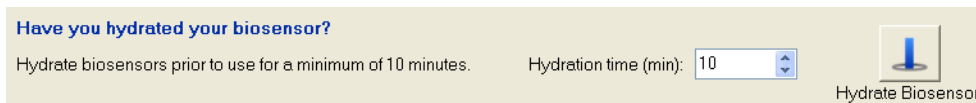

Figure 4-2: Hydrate Biosensors
6. Select a hydration time of **10 minutes** (the default) or more, and click the **Hydrate Biosensor** icon  (Figure 4-2).